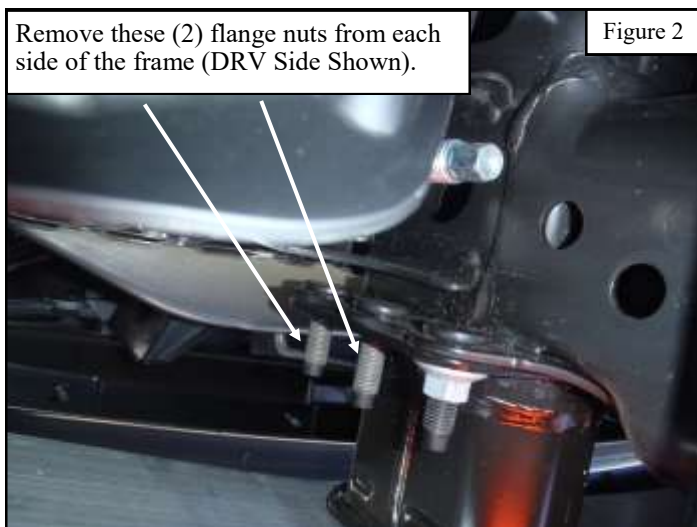

Figure 2
4. Remove the two upper factory M10 flange nuts from each side of the frame where the bumper brackets are mounted to the frame. See **Figure 2** for reference. *Note: Although a 14mm wrench can be used for this step, it is much easier with a 3/8" drive mid-length socket.*